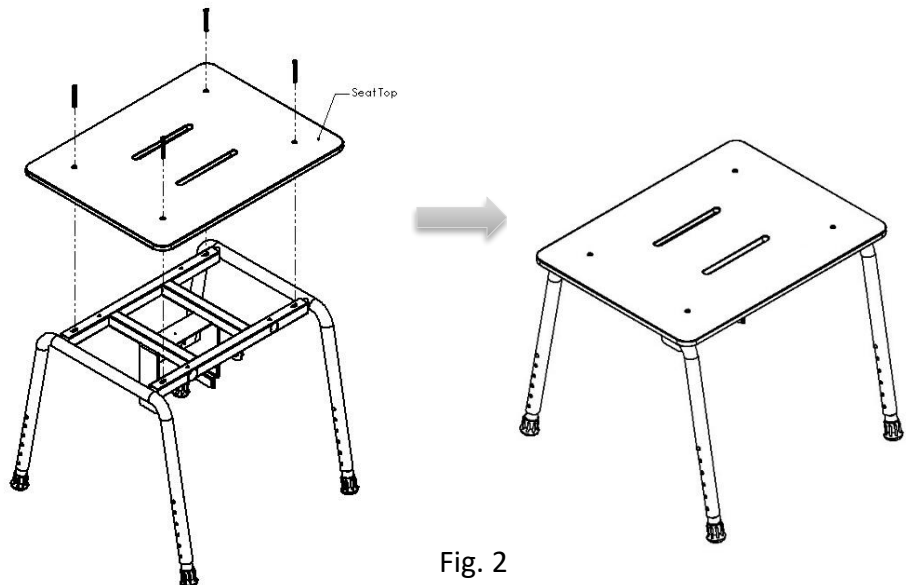

Fig. 2
Place phenolic seat top onto preassembled frame and align all holes. Use (4) 10-24 x 2" Phillips Flat Head Screws (provided) and insert them into the (4) holes of the seat top. (See Fig. 2)